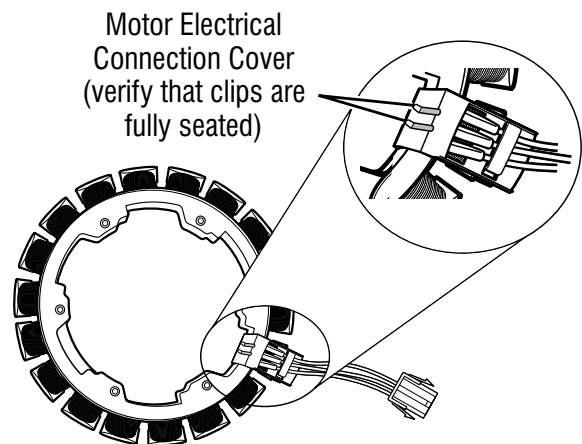

Figure 1 - Removing Shifter Coil and Checking Motor Electrical Connection
7. Tilt washer back to access the bottom of the washer and the drive motor area (see Figure 1, page 3-7).
13. Visually check that motor electrical connection cover is fully seated (see Figure 1 below).